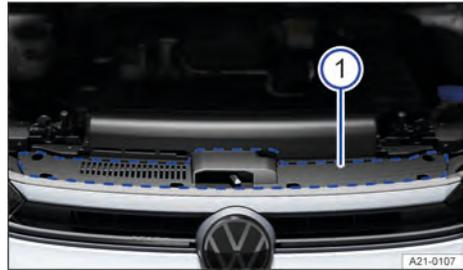

Fig. 186 Installation location of the sticker for engine oil standard and engine oil viscosity (illustration).
- ① Information about the engine oil standard.
- ② Information about the engine oil viscosity.
The sticker showing the prescribed standard is located at the front of the engine compartment, on the side next to the bonnet release → Fig. 186 ①.